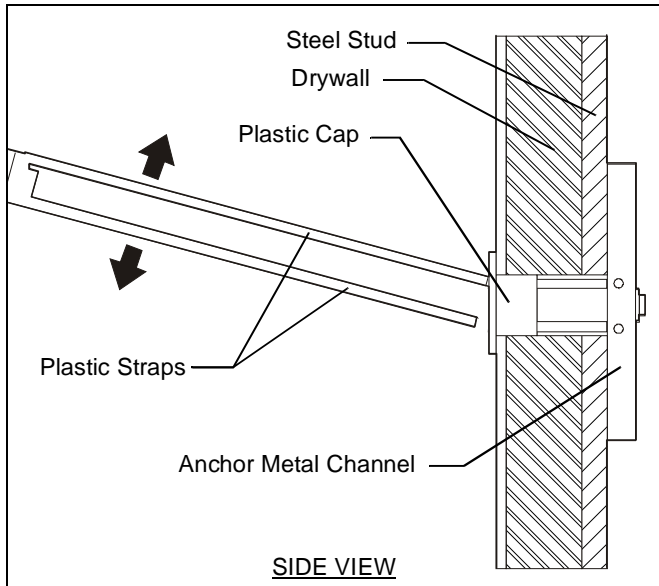

Figure 7
9. Snap off plastic straps on anchor at wall by pushing side to side, snapping off straps level with flange of plastic cap. (See Figure 7)